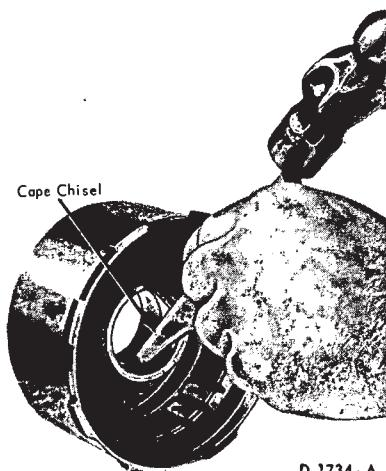

FIG. 78—Removing Reverse—High Clutch Bushing
7. Remove the drum bushing if it is worn or damaged. Use the cape chisel (Fig. 78) and cut a shallow groove $\frac{3}{4}$ inch in length along the bushing